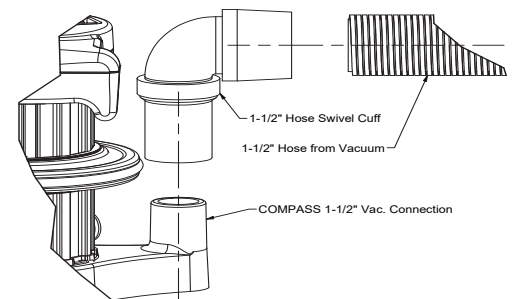

Figure 4
1. Install supplied 1-1/2" hose swivel cuff (Figure 4) by screwing cuff CCW onto hose.
2. Push swivel cuff onto base using a twisting motion (Figure 4).